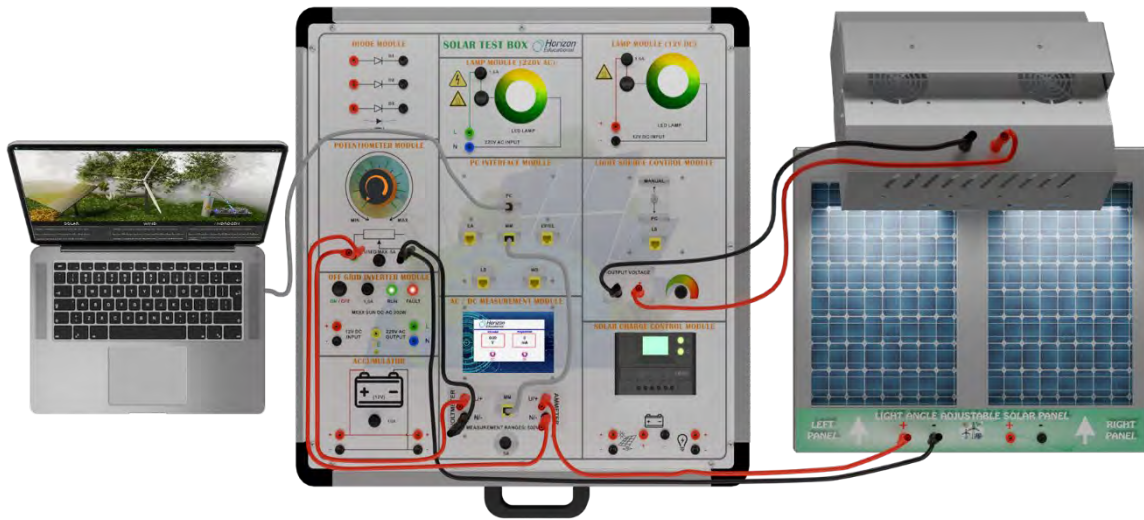

Figure-17. Installation Image of PV Current-Voltage Characteristic Extraction Experiment
1. Set up the connection as specified in Figure-17. Ensure a constant level of light in the laboratory by creating an average scenario. Any alterations to the positions of the lamps or curtains will impact the experimental outcomes.
5. Adjust the Electronic Potentiometer (EP) Module to decrease the load value from 1000 ohms, decreasing it by 100 ohms per step.
6. Record the values displayed on the voltmeter and ammeter of the AC/DC Measurement Module (MM) for each step in Table-14.